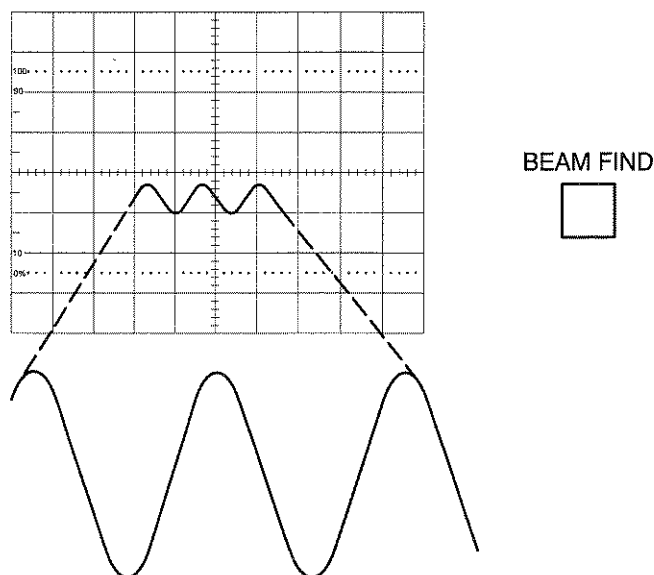

Figure 3-5: Beam Find
- ☐ **Step 3:** Press the **BEAM FIND** button and hold it in. The beam of the CRT is now intensified and compressed into the viewing area (Figure 3-5).